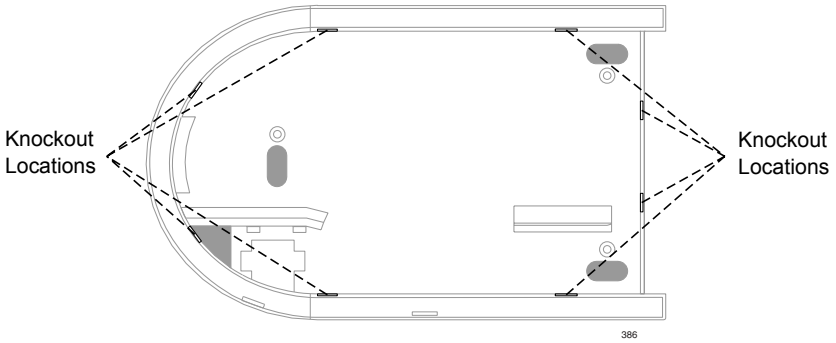

Figure 10. Knockout Locations
6. On the back of the cover, note the eight possible locations where you can remove a “knockout” in order to thread the cable into the base, as shown in Figure 10.